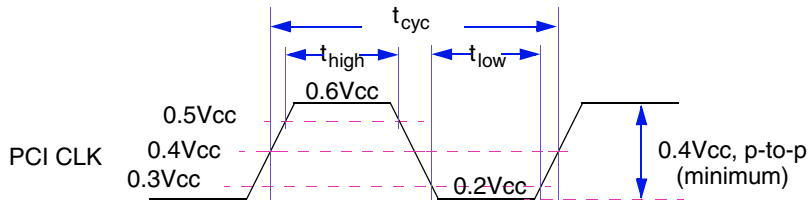

Figure 9. PCI CLK Waveform
The MPC5200B is always the source of the PCI CLK. The clock waveform must be delivered to each 33-MHz or 66-MHz PCI component in the system. Figure 9 shows the clock waveform and required measurement points for 3.3 V signaling environments. Table 22 summarizes the clock specifications.
2. Rise and fall times are specified in terms of the edge rate measured in V/ns. This slew rate must be met across the minimum peak-to-peak portion of the clock waveform as shown in Figure 9.